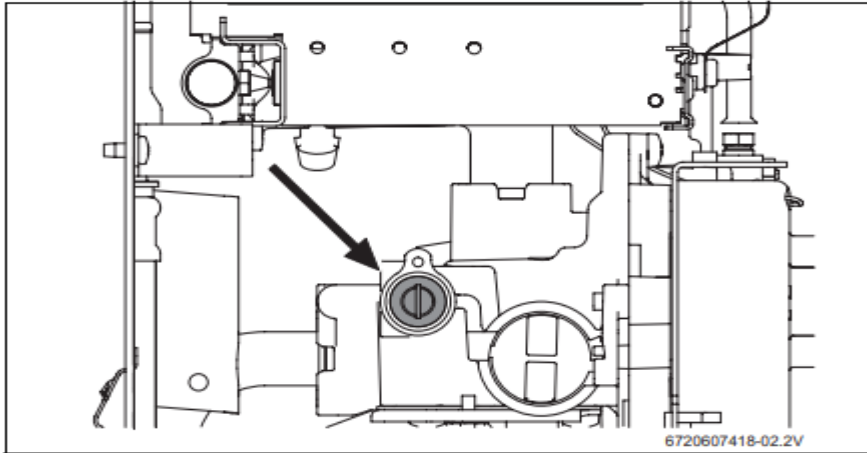

Fig. 17 Maximum gas flow adjusting screw
- Remove the seal from the adjusting screw (Fig. 17).
- Using the adjusting screw (Fig. 17), regulate the gas pressure until the values indicated in the table 6 are achieved.